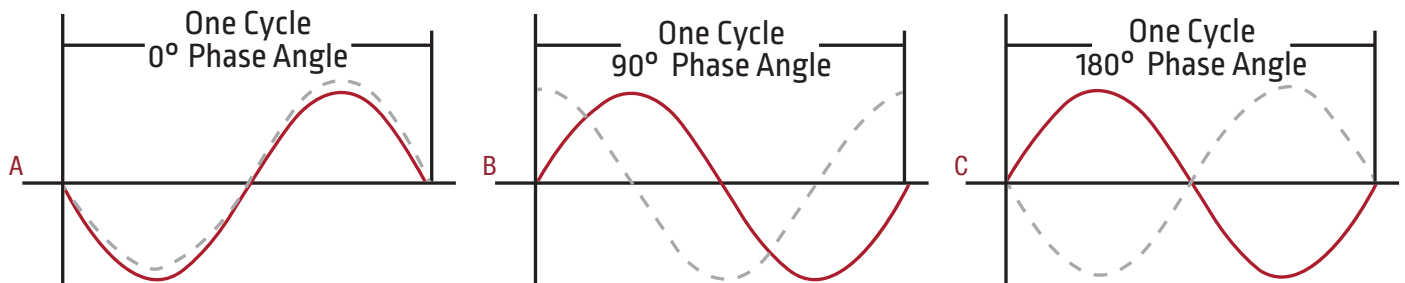

Figure 6-5: Three Examples of Separate and Independent Arcs
Phase angle is the angular separation of AC current paths. For example, normal industrial three-phase power is separated by 120° . AC-AC welding circuits involve two separate single-phase circuits. While each circuit is an independent circuit, they can and do interact with each other. Common phase relationships that may exist in arc welding circuits are shown in Figure 6-5 A, B, and C. The solid curve and the dashed-line curve each represent a separate and independent arc.
Figure 6-5 on page 95 depicts the following relationships (assuming the current on each electrode is the same):
- » Figure 6-5 on page 95, A: Both curves are in phase, hence the resultant value of the ground current will be double the current flowing across each electrode.
- » Figure 6-5 on page 95, B: This example presents an entirely different situation and is similar to what is most common in tandem arc welding circuits. The ground current will not be twice the set value for each electrode, but some value that will be greater than the value for each electrode, but less than twice the set value. Actually, it will be twice the value where the two curves cross each other.
- » Figure 6-5 on page 95, C: At any point, the value of each curve is equal, but of opposite polarity, therefore the ground current will be zero.